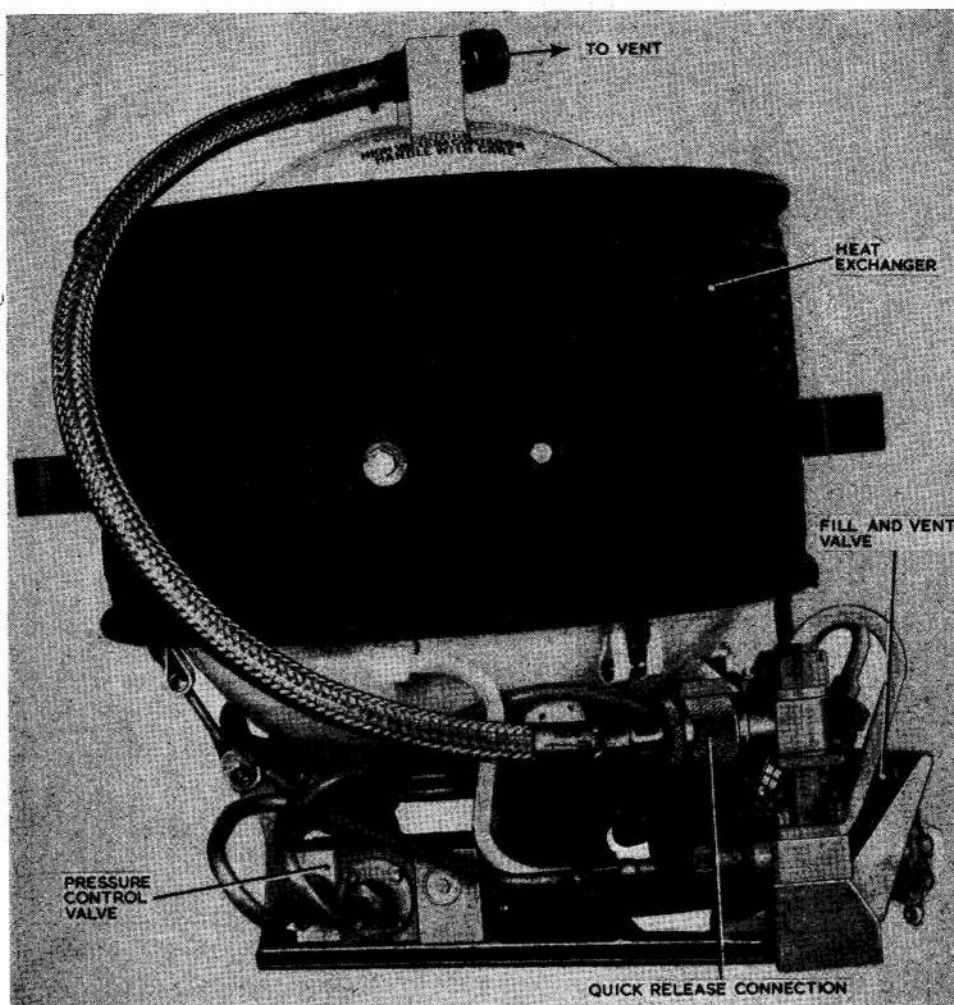
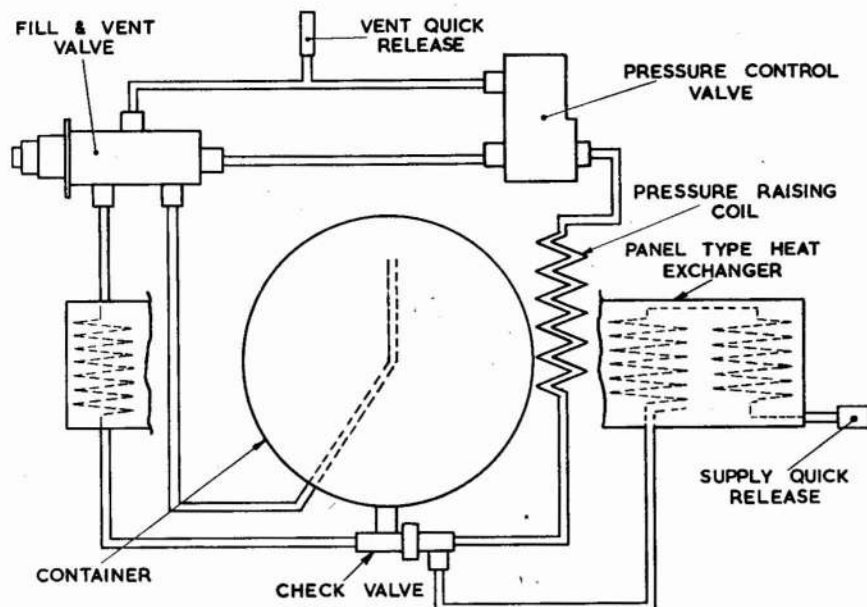

Fig. 2. Quick release connection and flexible vent pipe
Fig. 4. Layout of pipelines and components (Schematic)
4. The pressure control valve (fig. 2) is located on the base of the package unit base assembly. This component is also used with earlier versions of the liquid oxygen systems and is described in Sect. 1, Chap. 2. The location of this component in a typical oxygen system is shown schematically in fig. 4.
7. The heat exchanger consists of a simple cylindrical type casing mounted on brackets and encloses part of the liquid oxygen container. It consists of an inner and outer shell which is provided with semi-circular shaped channels. When these shells are clamped together (cold welded), the semi-circular channels form a multi-block honeycomb for the heat exchanger. Pipeline connections to the heat exchanger are shown schematically in fig. 4.
8. Referring to fig. 1 and 2, the quick release connectors are supported on small light-alloy mountings, which are bolted to lugs integral with the base casting. The connector marked SUPPLY connects to the oxygen supply line, the connector marked VENT is connected to the aircraft atmospheric vent line. A flexible pipe coupled to the vent quick release connector is shown in fig. 2.
9. The flexible pipe for the VENT enters the quick release connector horizontally (fig. 2) and the lateral disposition of this connector is preset and secured with a locking pin to suit individual aircraft installations. The quick release connector (fig. 1) for the SUPPLY line is vertically disposed on